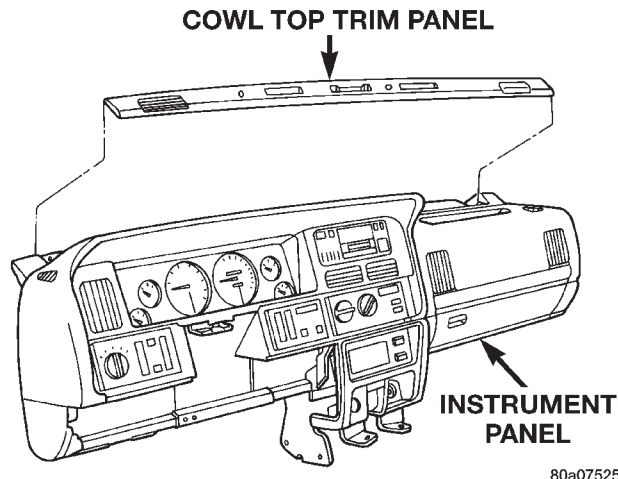
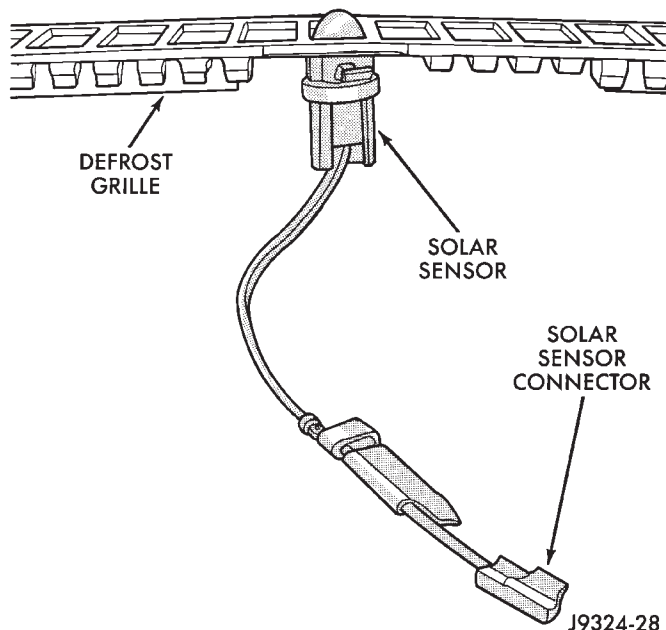

Fig. 42 Cowl Top Trim Remove/Install
Fig. 43 Solar Sensor
- (1) Disconnect and isolate the battery negative cable.
- (2) Using a trim stick or other suitable wide flat-bladed tool, pry gently along the edge of the instrument panel cowl top trim panel to release the snap clip retainers (Fig. 42).
- (3) Lift the cowl top trim panel far enough to reach underneath it to access the solar sensor, which is located between the passenger side and center defroster outlets.
- (4) Use a twisting motion to remove the solar sensor from the cowl top trim panel (Fig. 43).
- (5) Pull the sensor out far enough to access the wire harness connector and unplug it from the instrument panel wire harness.